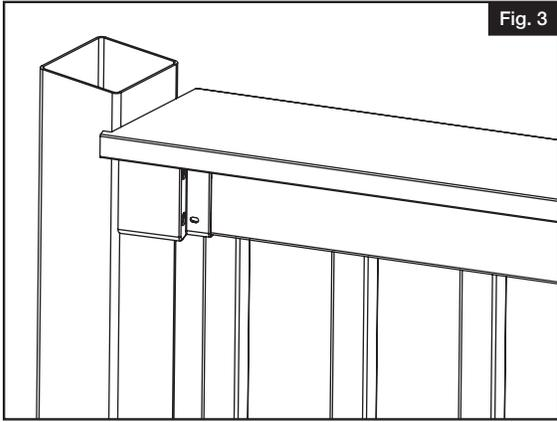

Fig. 3
- the maximum cut angle should be no greater than 21.5 degrees to ensure the bracket/rail does not overhang the 4x4 post. If you use this bracket at an angle greater than 21.5 degrees, it is recommended to use a larger post sleeve. The deck board, if installed post to post (versus over the top) will extend beyond the width of the post (Fig. 3).